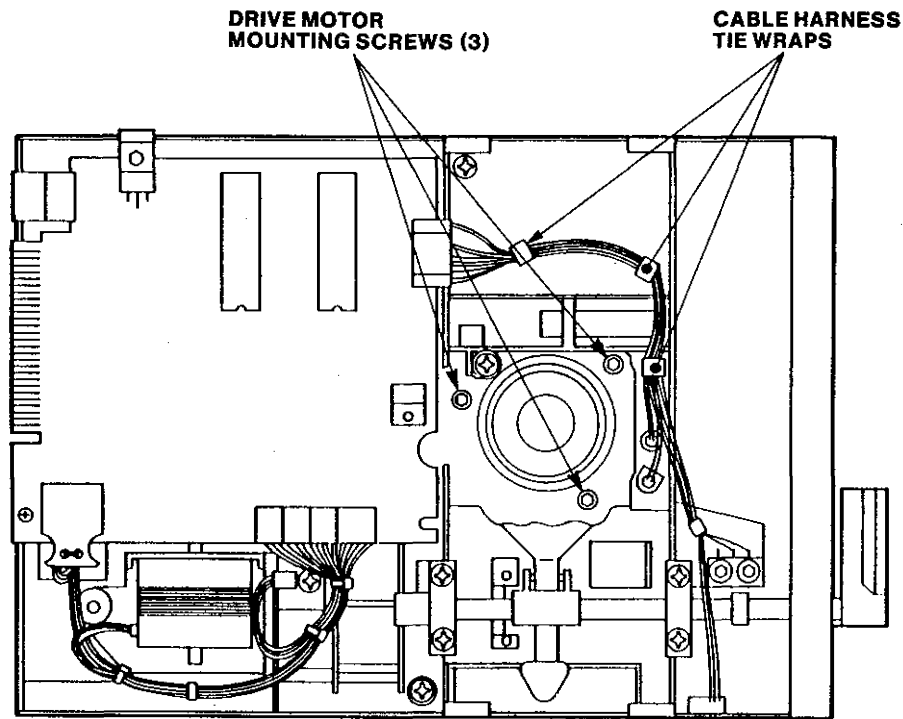

**FIGURE 6-7
5. Carefully lift out the Bridge Assembly toward the back of the drive. The shaft must clear the front panel (Figure 6-7).